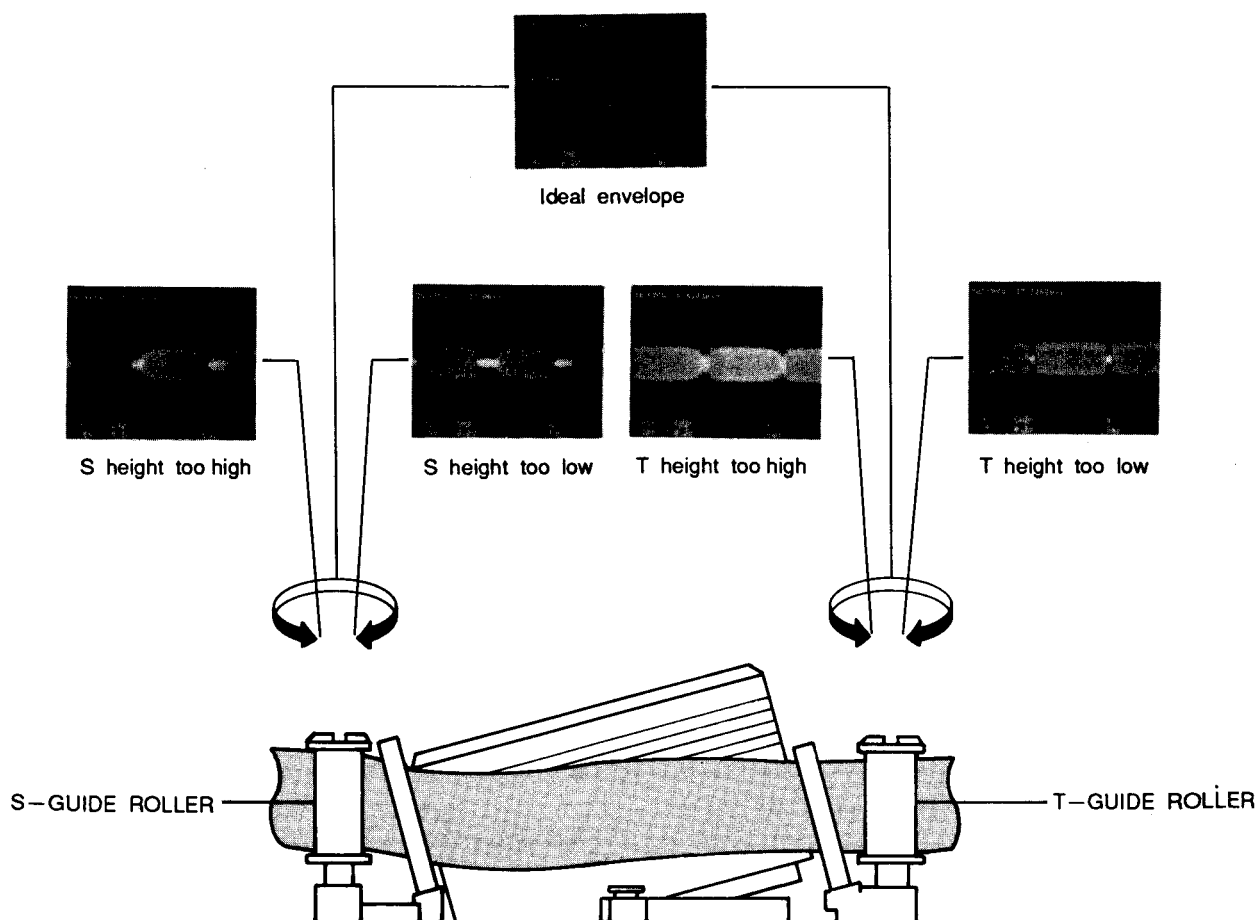

Fig. 13 S, T-Guide Roller Height Adjustments
9. Turn the guide roller heads with a flat head () screw driver (Service Jig Kit - L) to obtain flat video RF envelope as ideal envelope as shown in Fig. 13.